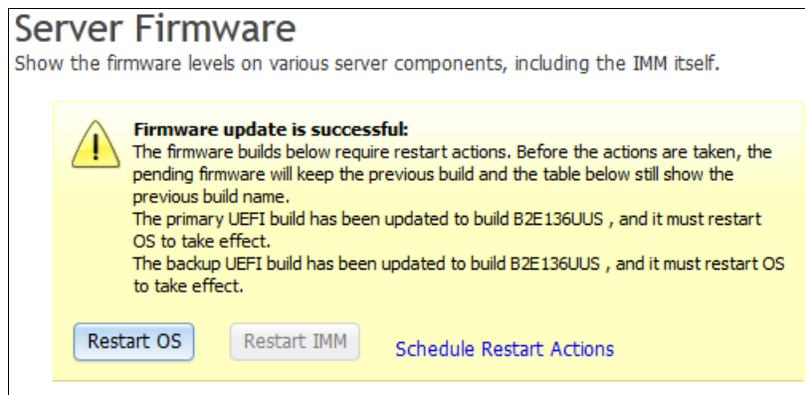

Figure 6-26 Firmware activation pending restart message
- Click **Finish** to quit the Firmware Update wizard without rebooting. If a restart of the IMM or a reboot of the OS is required, a message stating they are required so that firmware updates can be activated is displayed, as shown in Figure 6-26.